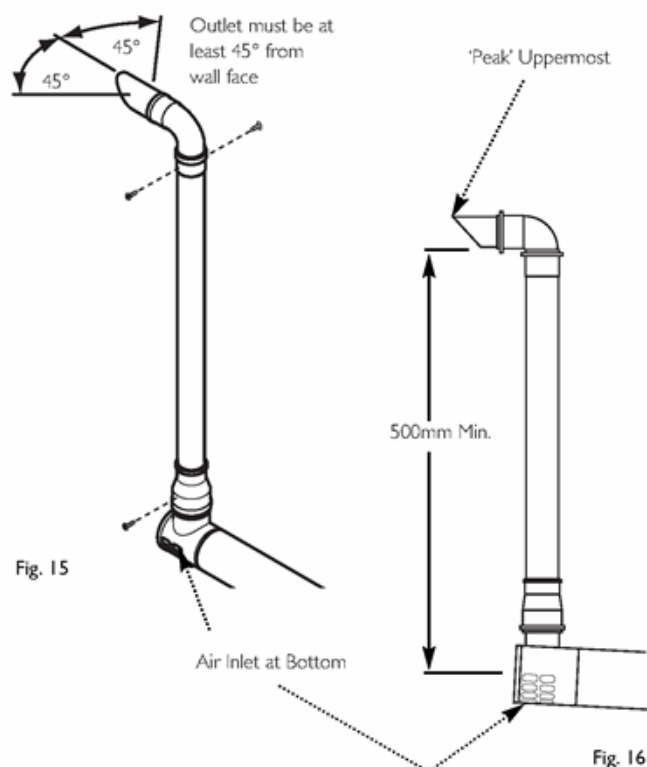

Fig. 15 & Fig. 16
3. The plume outlet must always be at least 45° to the wall, with the 'peak' uppermost to prevent rain entry (Figs. 15 & 16), and be at least 2 metres above ground level. It must be secured as shown in Fig. 12a. The plume outlet must also be at least 500mm from the air inlet in any direction (Fig. 16).